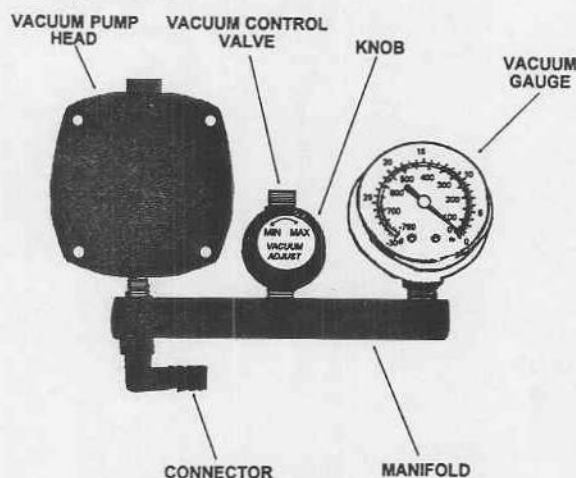

Figure 3-6. Vacuum pump head and manifold (front).
- (4) Remove the four Phillips screws from the vacuum pump head. Set them aside.
(5) Lift off the vacuum pump head which is connected to the manifold with the vacuum control valve and the vacuum gauge. Refer to figure 3-6.